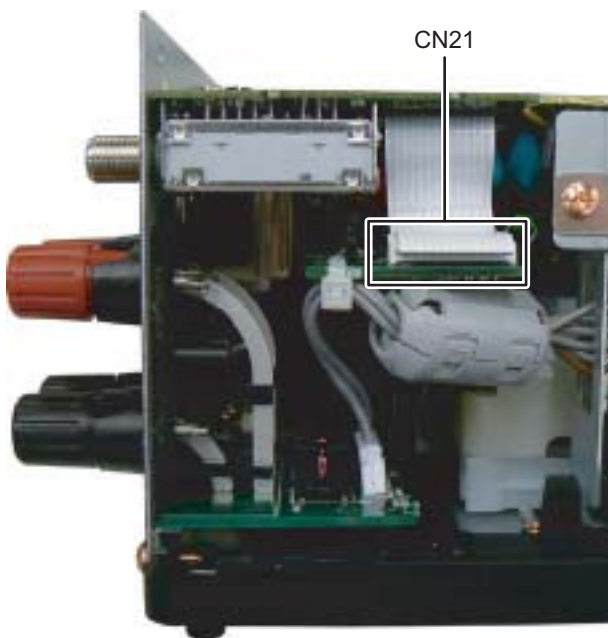

Fig.8
3.1.4 Removing the Rear panel (with DAB tuner pack) (See Fig.8, 9)
- (1) Disconnect the card wire from DAB tuner pack connected to connector **CN21** of the Micon board. (See Fig.8)